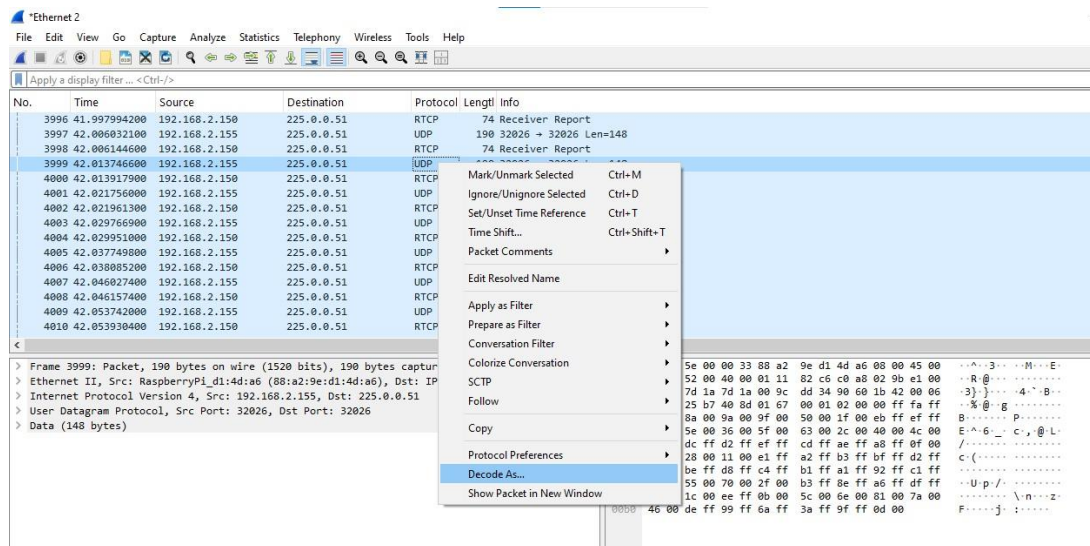

Figure 43: UDP Packet Decode as RTP
- 10 Select any UDP packet from the captured traffic in Wireshark Trace and click on it and select decode as show in Figure 43.